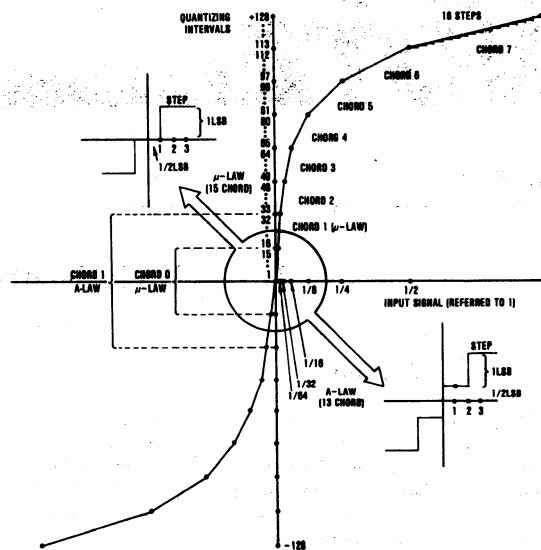

FIGURE 2.
The PCM CODEC performs this non-uniform or non-linear quantization through μ -Law or A-law companding characteristics shown in Figure 2. This process enhances lower amplitude signals, to allow them to compete with system noise, and attenuates higher amplitude signals, preventing them from saturating the system. This form of signal compression results in a relatively uniform signal to quantization noise ratio, approaching 40dB for a wide range of input amplitudes. Also, the dynamic range approaches that of a 13(11) bit A/D or 80(66)dB for μ -Law (A-Law) companding. The digital realization of this companding process is obtained by a segment and chord piecewise linear approximation to a semi-logarithmic function.